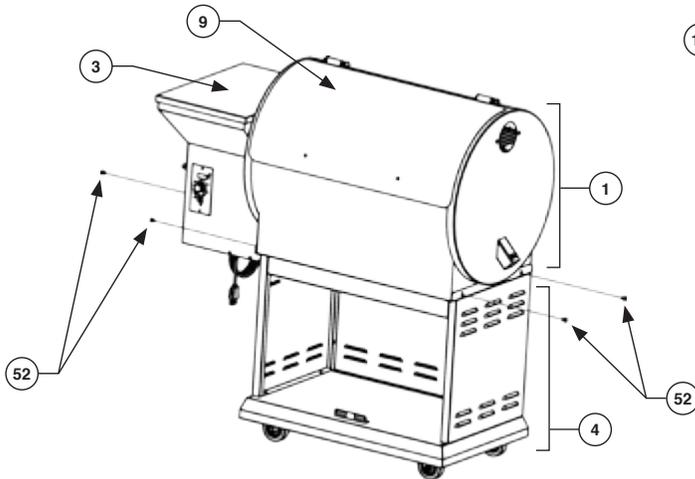

FIG 5
Uplift the Chamber (1) on the Body Frame (4). Make sure that the Chamber (1) is between the left and right plate of the Frame (4). Align the chamber holes with the plate holes and secure with $\frac{1}{4}$ -20* $\frac{1}{2}$ Bolt (52). As shown in FIG 5.